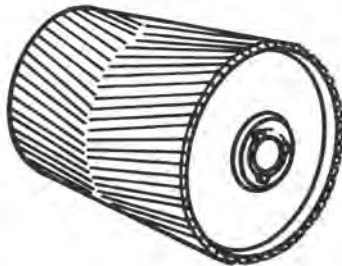

Fig. 33
3. Grooved lagging should be used on drive pulleys if they are likely to be wet. The grooves break the film of moisture between the belt and lagging, thereby eliminating slippage. Either bolted or vulcanized lagging can be furnished with grooves. Either type can be grooved in the field with a tire-groover if there is sufficient rubber to prevent cutting into the fabric carcass or metal pulley. Herringbone grooving 3/16" deep and wide spaced 1" apart is recommended (Fig. 33).